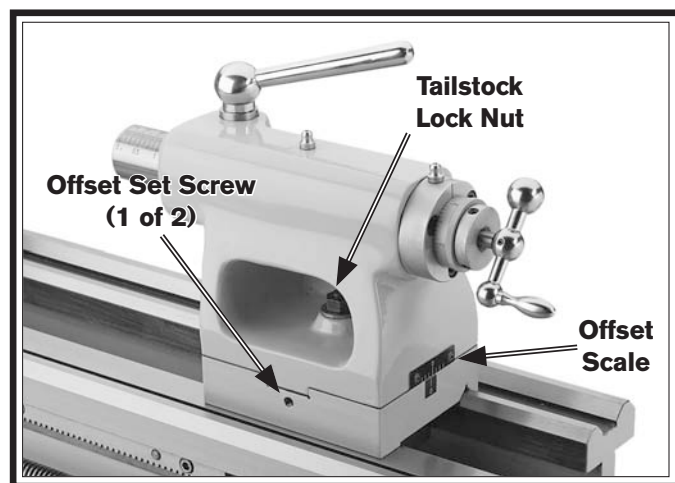

Figure 28. Tailstock offset controls.
1. Loosen the tailstock lock nut to release the clamping pressure between the top and bottom castings (see **Figure 28**).